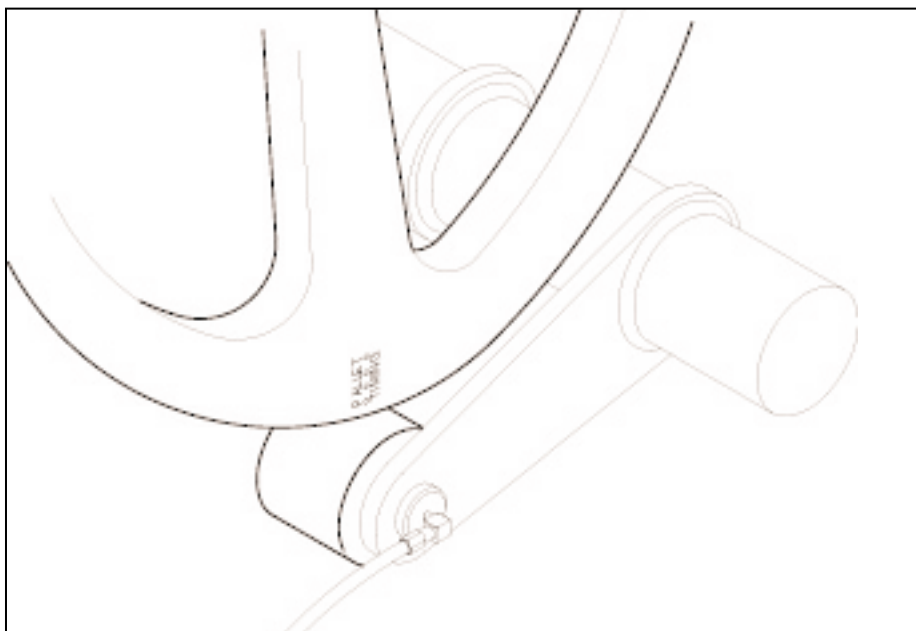

Figure 6.8 ALIGNING PALLET FEEDER TIMING MARK WITH ROLLER
6.2.3 Operate machine until pallet feeder timing mark is in line with center of roller (see figure 6.8).